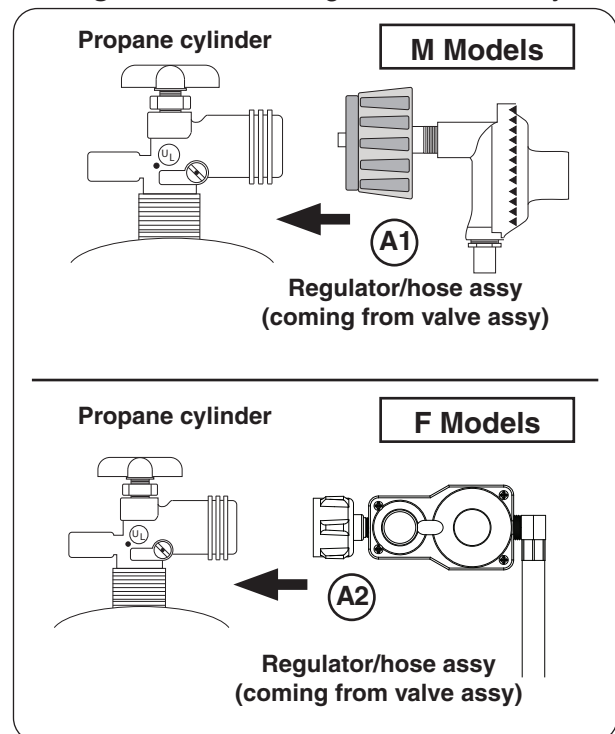

Fig. 28-2 Connecting hose assy to L.P. cylinder
2. Attach the regulator end of the hose assembly to a propane cylinder (not included) and tighten (see Fig. 28-2, A1 or A2).